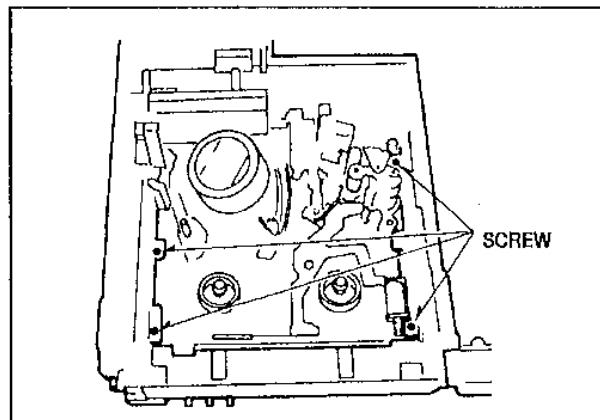

Fig.M50
- Tighten 4 screws as shown in Fig.M50.